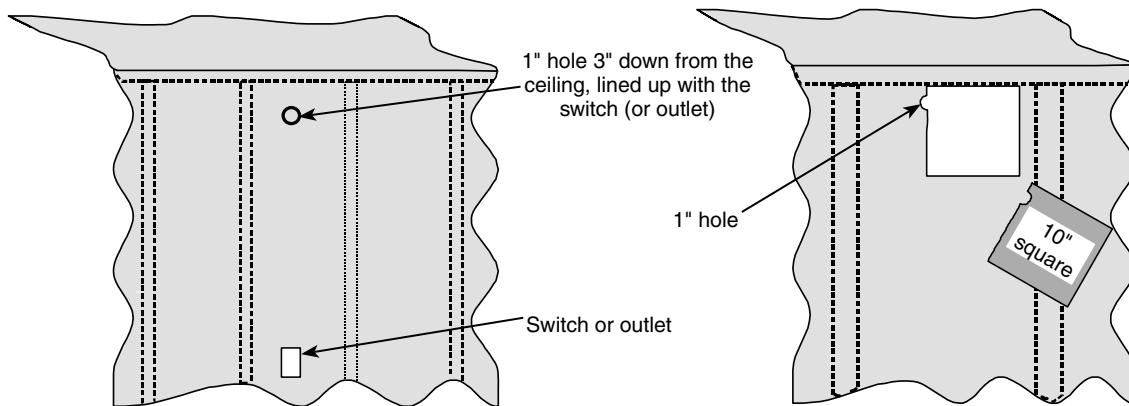

Figure 8-8
- First, run the new wiring up to the ceiling cutout to power the fan. Start routing the new wires by drilling a 1-inch hole through the wall, 3 inches down from the ceiling and directly above the wall switch. Figure 8-8 illustrates this process.